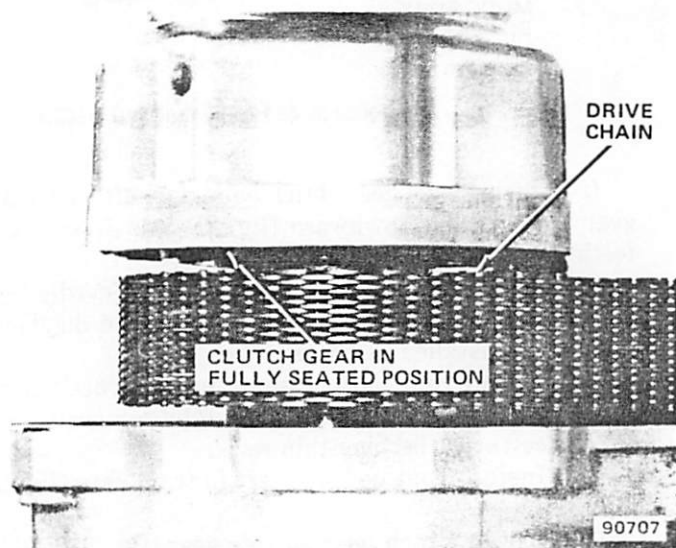

Fig. 2D-67 Seating Viscous Coupling on Clutch Gear
(38) Install assembled viscous coupling and rear output shaft on mainshaft (fig. 2D-48). Align mainshaft pilot hub with pilot bearing bore in rear output shaft and carefully lower assembly onto mainshaft. Take care to avoid displacing pilot roller bearings during installation.
(39) Align clutch gear teeth with viscous coupling teeth and seat coupling fully onto clutch gear (fig. 2D-67).